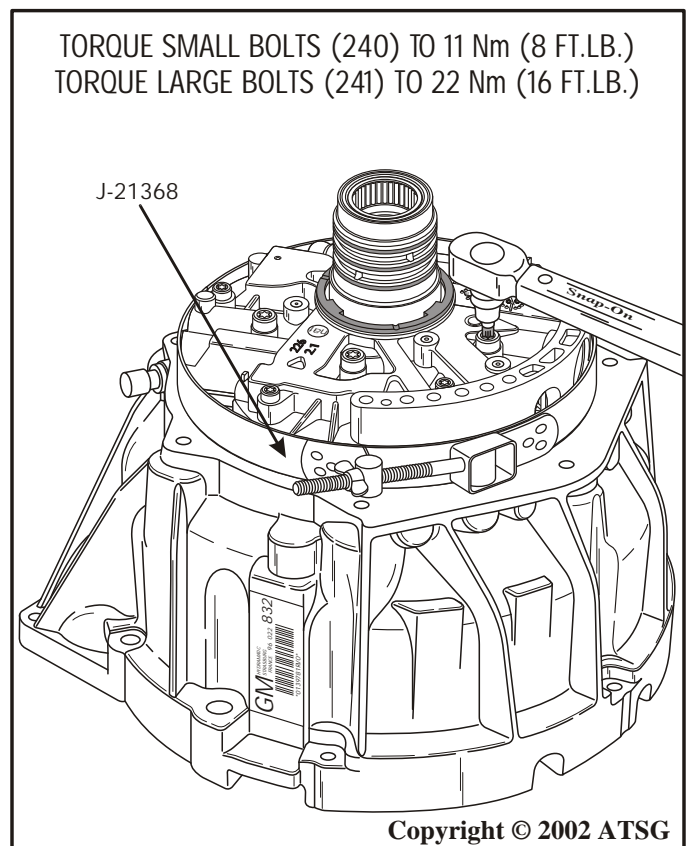

Figure 69
31. Install the J-21368 pump alignment band and tighten, as shown in Figure 69.
32. Torque six pump cover retaining bolts (240) to 11 Nm (8 ft.lb.), as shown in Figure 69.
33. Torque five pump cover retaining bolts (241) to 22 Nm (16 ft.lb.), as shown in Figure 69.